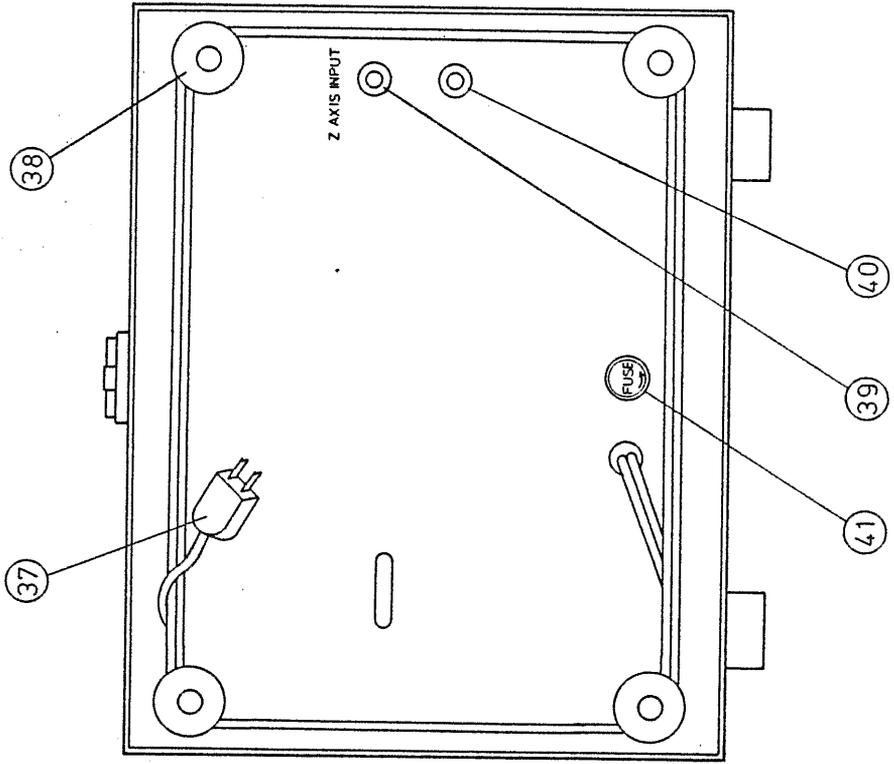

Figure 2
Disconnect the shorting bar of the external intensity modulation signal input terminal (Z-AXIS INPUT ③⑨), see Figure 2), and apply an intensity modulation signal between Z-AXIS INPUT terminal ③⑨ and GND terminal ④⑩. When the intensity modulation is not used, keep the shorting bar connected.